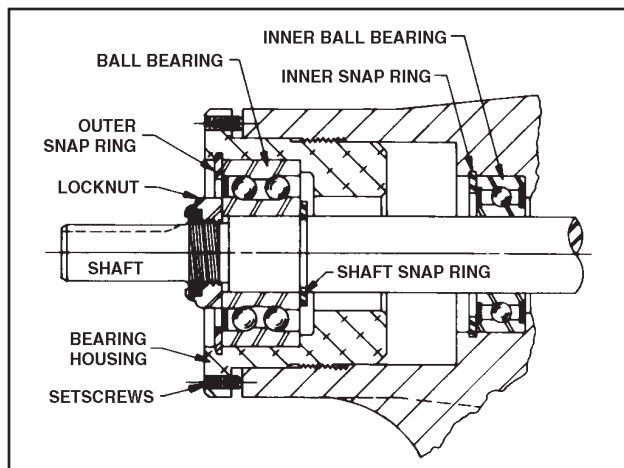
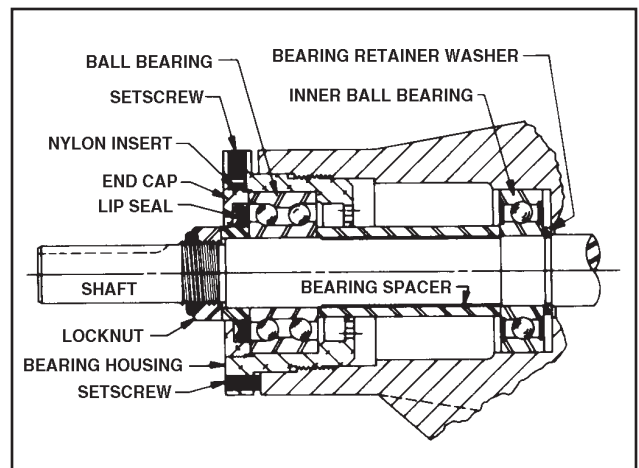

Figure 28 - Thrust-Bearing assembly (GG, HJ, HL)
Figure 29 - Thrust-Bearing assembly (AS, AK, AL)
5. Insert a brass bar or piece of hardwood in the port opening and between rotor teeth to keep shaft from turning. Turn the locknut counterclockwise and remove locknut. See Figure 28 or 29.
6. Loosen two setscrews in face of bearing housing and turn thrust bearing assembly counterclockwise and remove from casing. See Figure 28 or 29.
7. **GG, HJ, HL:** Remove snap ring from shaft. See Figure 28. **AS, AK, AL:** Remove bearing spacer from shaft. See Figure 29.
10. **AS, AK, AL:** Remove bearing retainer washer. The washer may have stayed with rotor and shaft when removed or is against ball bearing. See Figure 29.
GG, HJ, HL: Remove outer snap ring from bearing housing and remove ball bearing. See Figure 28.
AS, AK, AL: Loosen two set screws in flange outside diameter. Rotate end cap and lip seal counterclockwise and remove. Remove ball bearing. See Figure 29.
12. **GG, HJ, HL:** Install shaft snap ring in groove in the shaft. See Figure 28.
AS, AK, AL: Install bearing spacer over shaft and against single row ball bearing. See Figure 29.
13. **Pack lubrication chamber between** inner ball bearing and double-row ball bearing in the thrust-bearing assembly approximately one-half full of multipurpose grease, NLGI #2. The thrust-bearing assembly will take the remaining space. See Figure 28 and 29.
GG, HJ, HL: Install ball bearing into bearing housing with shield side toward coupling end of shaft. See Figure 28. Install snap ring into bearing housing to retain ball bearing. This snap ring has a tapered edge to fit tapered groove in bearing housing. The tapered edge is located away from ball bearing.
AS, AK, AL: Install ball bearing into bearing housing. Install lip seal in bearing housing end cap. The lip should face towards end of shaft. Put bearing spacer collar in lip seal and install in bearing housing and tighten setscrews securely. See Figure 29.